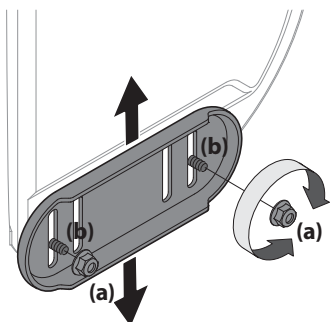

Figure 2-55
1. Loosen four hex nuts (a) (two on each side) and carriage bolts (b). Move skid shoes to desired position. See Figure 2-55.
NOTE: The skid shoes on your unit may look slightly different (and have different hardware) than ones shown in Figure 2-55.